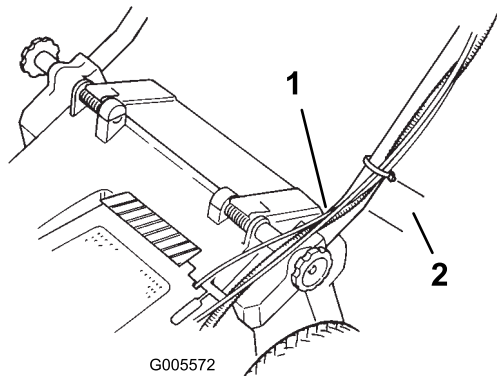

Figure 5
7. Position the cable tie 1 inch (25 mm) from the bend in the handle as shown in Figure 5.